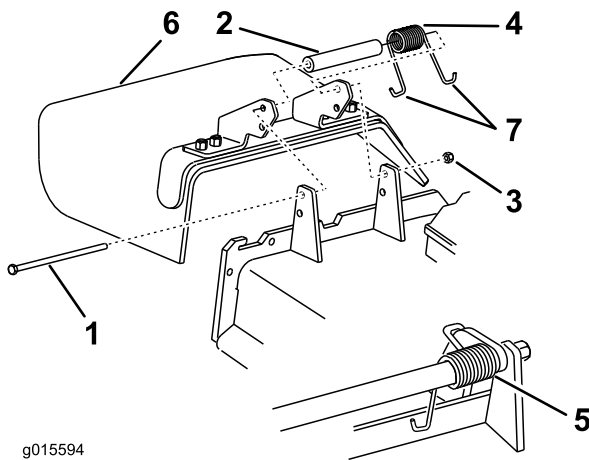

Figure 100
- Remove the locknut, bolt, spring, and spacer holding the deflector to the pivot brackets (Figure 100).
Note: Make sure that one J end of spring is installed behind deck edge before installing the bolt as shown in Figure 100.
- Place one J hook end of spring around grass deflector (Figure 100).